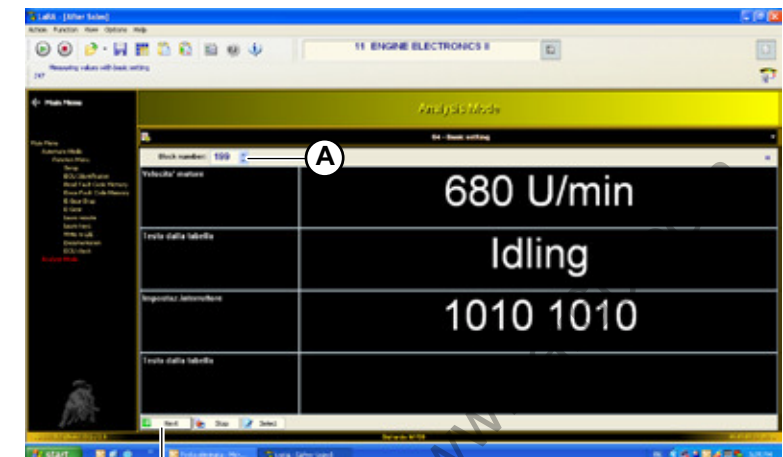

Fig.18
- Select routine 199 inside the block number (**A-Fig.18**).
- Start the connection () and press the start push-button (**B-Fig.18**).